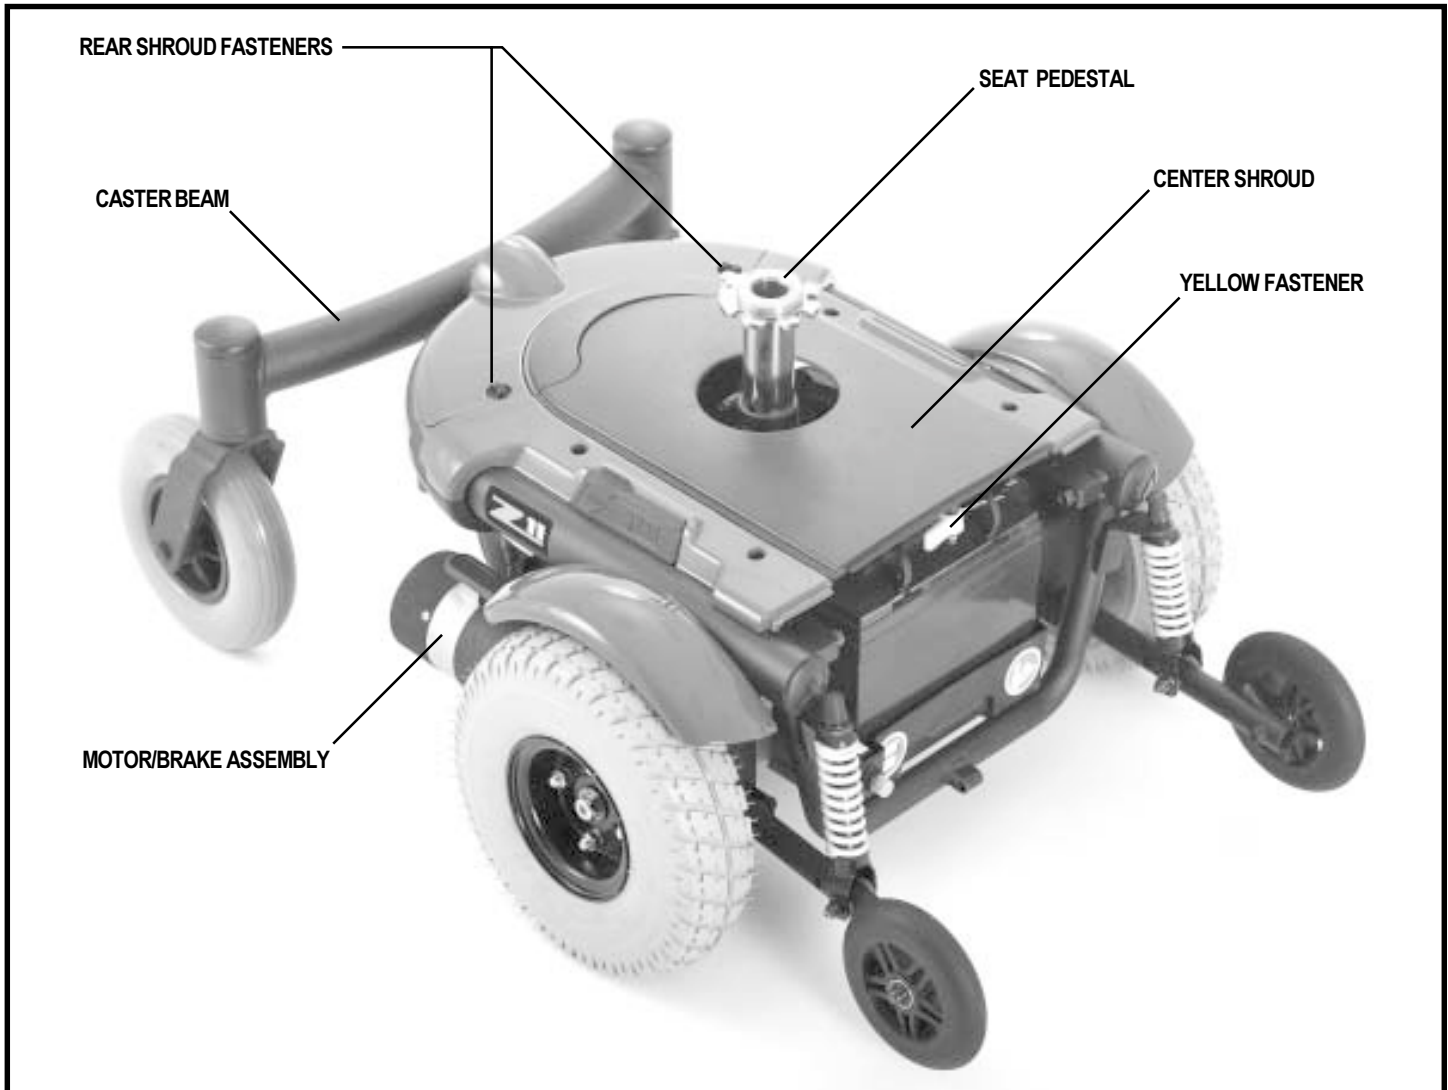

Figure 6. The Z11 Power Base (Foot Platform Removed)
2. Turn the rear shroud fasteners one-quarter turn and remove the rear shroud. See figure 6.
3. Turn the rear shroud fasteners one-quarter turn and remove the rear shroud. See figure 6.